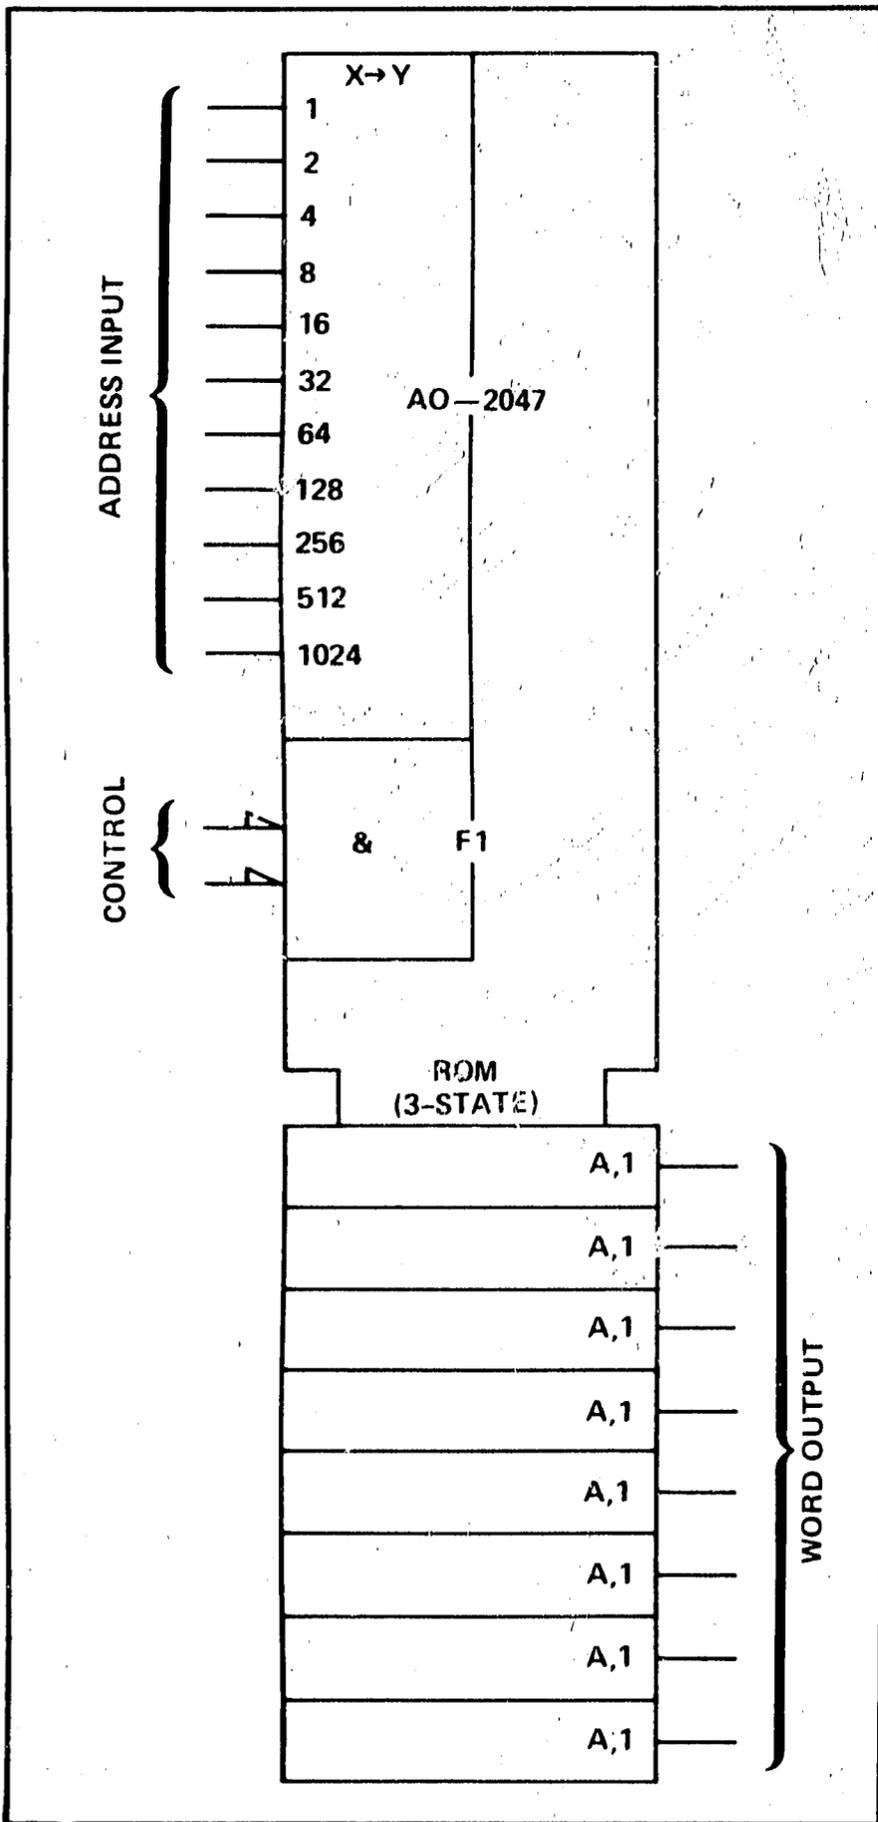

Figure 8-12. Read Only Memory (ROM)
Read Only Memory (ROM). The ROM in Figure 8-12 provides permanent storage for up to 2048 eight-bit words. Memory words are addressed by the address bus. When all control inputs are active, the output of the ROM is enabled. When any one of the EN inputs are inactive, the output is forced into an inactive (high impedance) state.
The management of bidirectional Figure 8-12. Read Only Memory data flow is provided by the (ROM) Talk Enable (TE) and Attention (ATN) inputs.